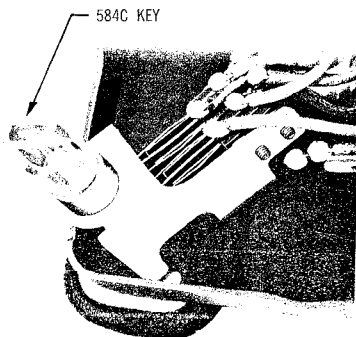

Fig. 29 — 584C Key
- When handset is lifted the dial lamp should light. With the 584C key (see Fig. 29) turned lamp should light. If not see Table A and check line switch or key contacts.